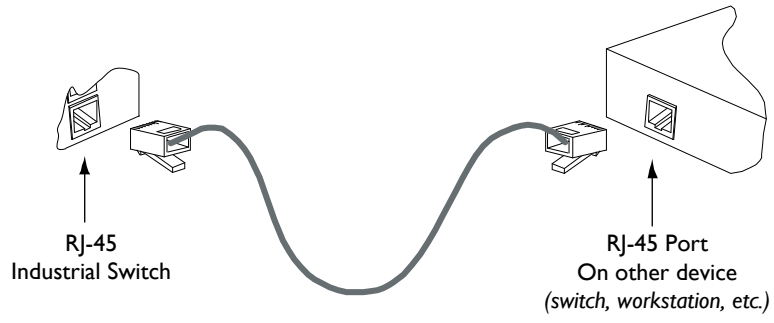

Figure 22: INDURA Connection to another Device
3.	Connect the RJ-45 connector at the other end of the cable to the RJ-45 Ethernet network port. See Figure 22 below.